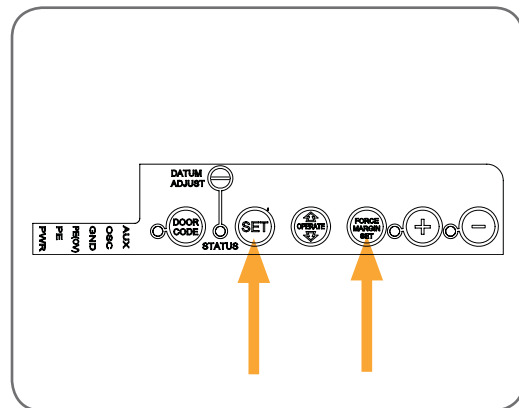

fig 23
- While holding down the **FORCE MARGIN SET** button, press the **SET** button for two (2) seconds. (**Fig. 23**)